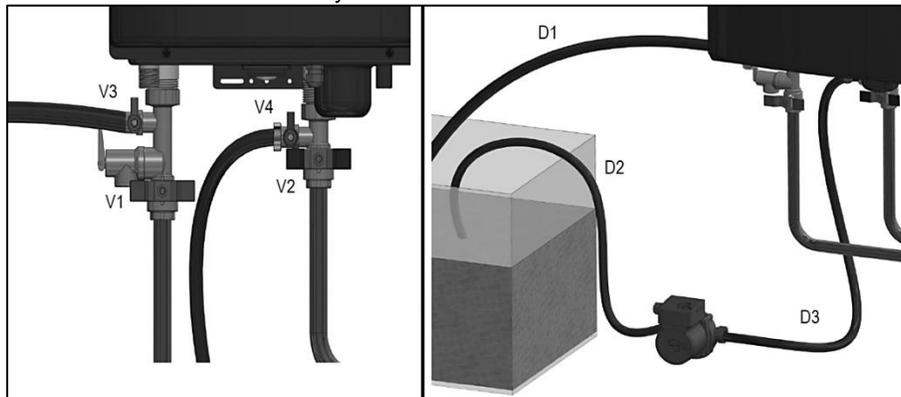

Figure 51 – A – Valve, and B – Hose Connection Details
2. Close the shutoff valves on both CH supply and CH return lines (V1 and V2). See Figure 51.
3. Connect one hose (D1, Figure 51) to the valve (V3) and place the free end in a bucket. Connect one of the hoses (D3) to the circulation pump outlet and the cold water inlet line to valve V4. Connect the other hose (D2) to the circulation pump inlet and place the free end in the bucket.